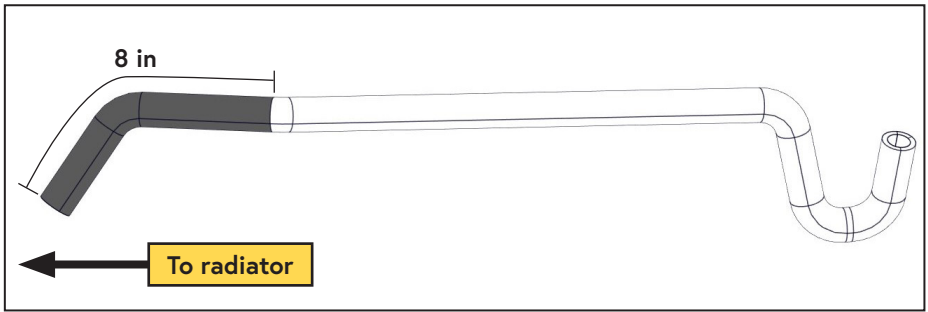

Figure 30 — Modify oil cooler hoses
- ☐ Cut the oil cooler hoses 8 in from where they connected to the diverter (Figure 30).